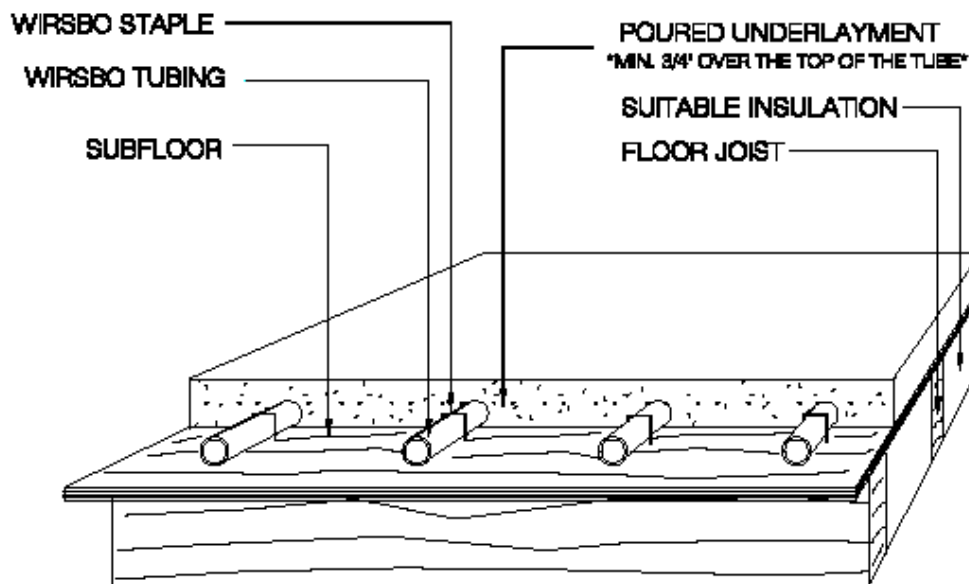

**Figure 3**
4. Tie the tubing to the wire mesh or rebar using Wirsbo wire ties and wire twister. Secure the tubing to the wire mesh or rebar every four feet along straight runs. At the 180° turns, tie the tubing at the top of the arc and once on each side, 12" from the top of the arc (see Figure 3), to prevent it from dislodging or floating into the pour.